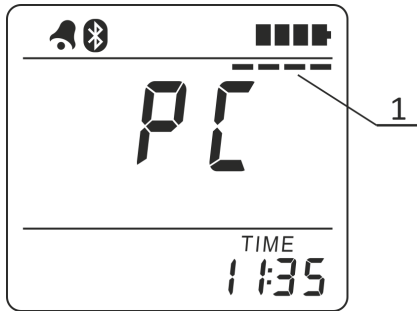

Figure 2.19 – LCD of the radiometer
In case of successful connection with the PC and data communications start, the LCD of the radiometer displays a stripe (1) (Figure 2.19), “moving” across the instantaneous value indicator.